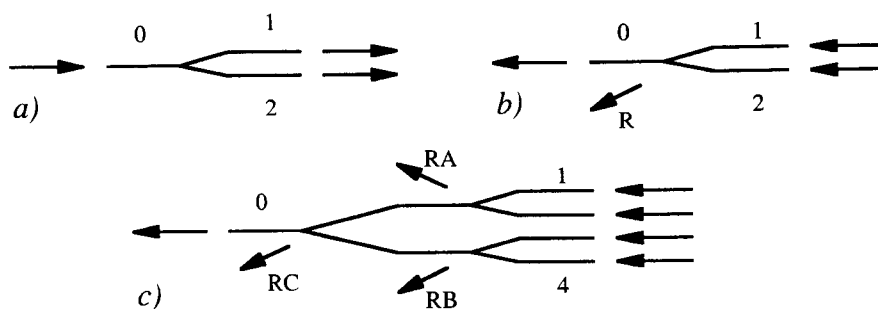

Figure 3.1
3. Figure 3.1 below shows several different Y-junction devices. The guided ports are each numbered, and in the questions below, A_0 will be the modal amplitude input to (or output from) Port 0, and so on. P_0 will be the corresponding modal power.